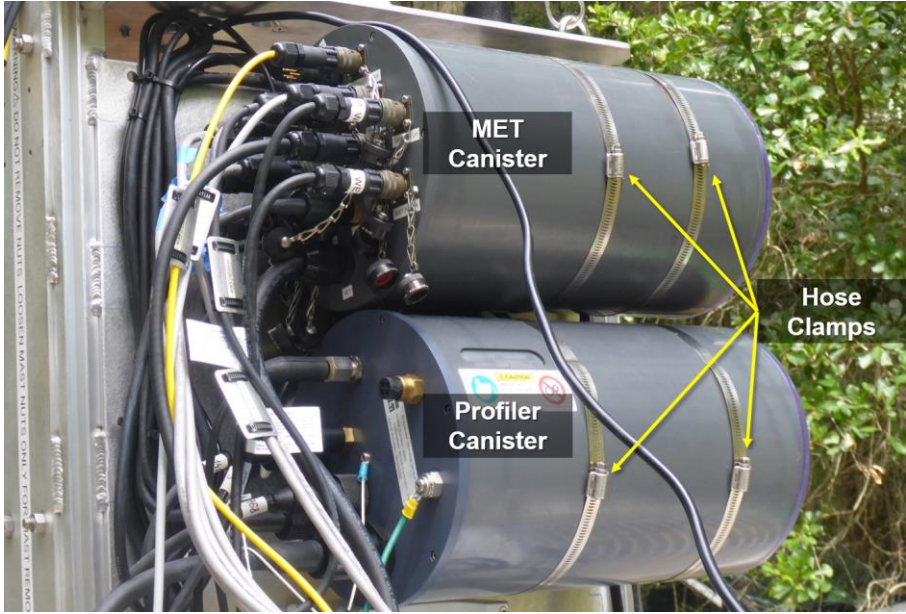

Figure 41. PVC Canister Enclosures for MET and Profiler Electronics
4. Each canister secures to the T-Frame via two large clamps. Figure 41 displays the location of each canister and their hose clamps.